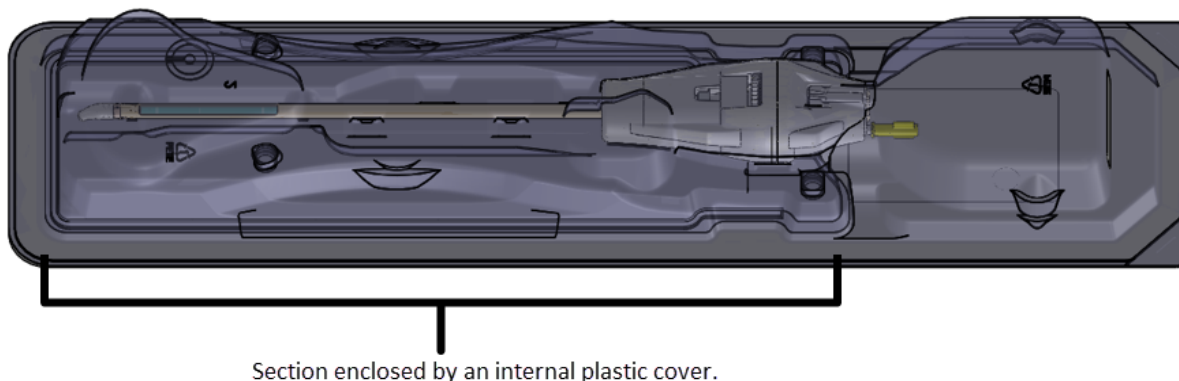

Figure 9: UA sealed inside a sterile package
**NOTE:** The UA and contents inside the UA packaging **are** sterile. *Figure 9* shows the UA inside its sealed and sterile package. There is another plastic cover that encloses the UA from its tip to the top of the handle that exposes the UA cable port and guidewire inputs and fluid tubes. When you connect the fluid tubes and UA cable, the UA's sterile barrier will have to be broken. Keep the internal plastic cover over the UA during preparation to limit contamination to only the top of the UA handle.